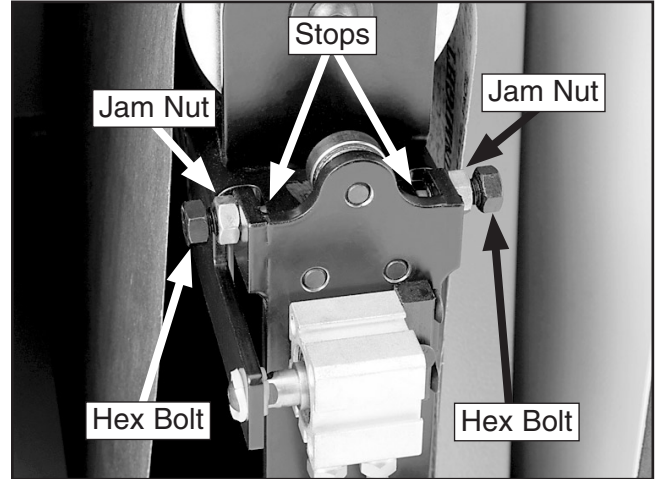

Figure 25. Sanding belt oscillation stops.
The rate of sanding belt oscillation can be changed by adjusting the oscillation stops shown in **Figure 25**.
2. Open the sanding belt access door and identify the oscillation stops shown in **Figure 25**.